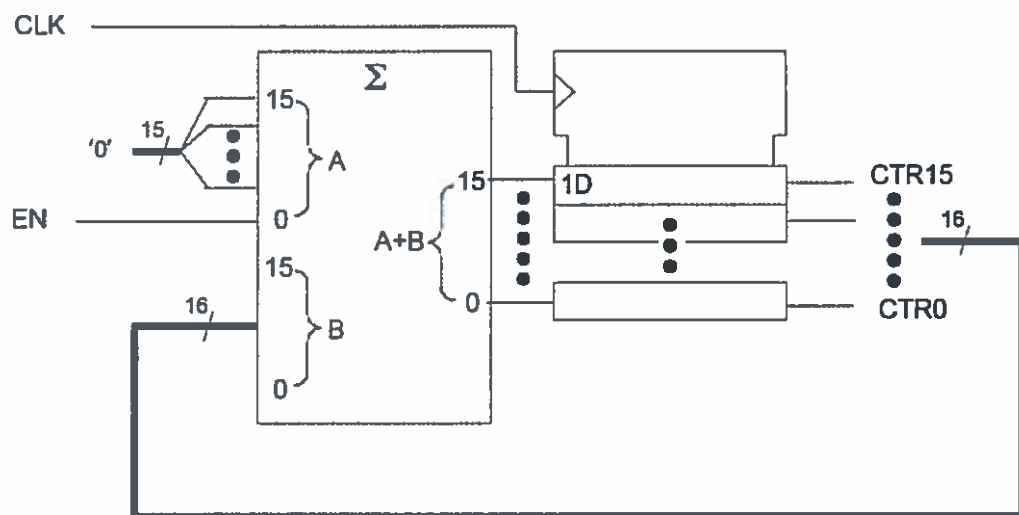

Figure 1.1
1. (a) *Figure 1.1* shows the schematic diagram of a 16-bit binary counter implemented on an Altera Cyclone III FPGA. It consists of a 16-bit adder and sixteen D-flipflops. EN is the enable input: if $EN = 1$, the counter output $CTR[15..0]$ is incremented by 1 on the rising edge of CLK; otherwise, the counter is not incremented.